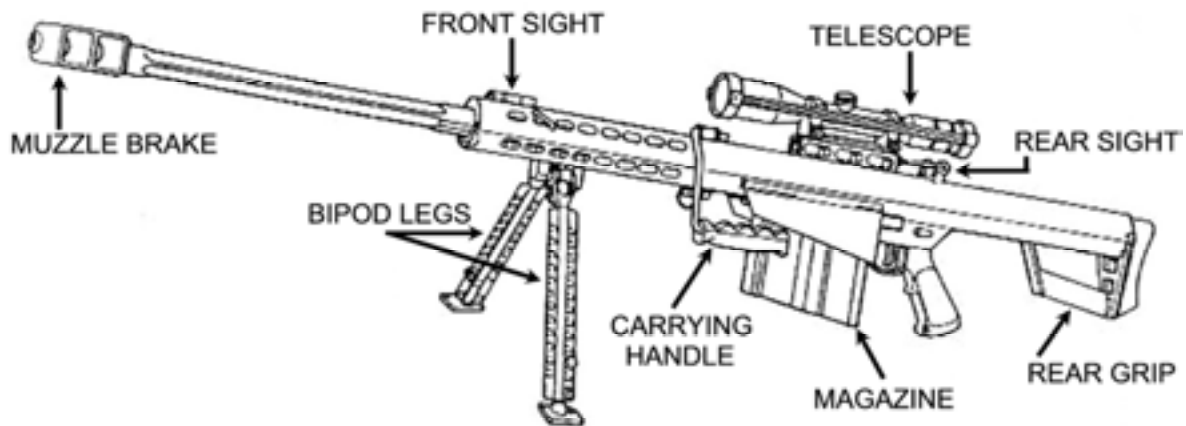

Figure 1-1. Rifle, M82A1, with Telescopic Sight
1.2.1 EQUIPMENT SPECIFICATIONS AND CAPABILITIES. The technical specifications and capabilities of the M82A1 (Figure 1-1) are listed in Table 1-1.